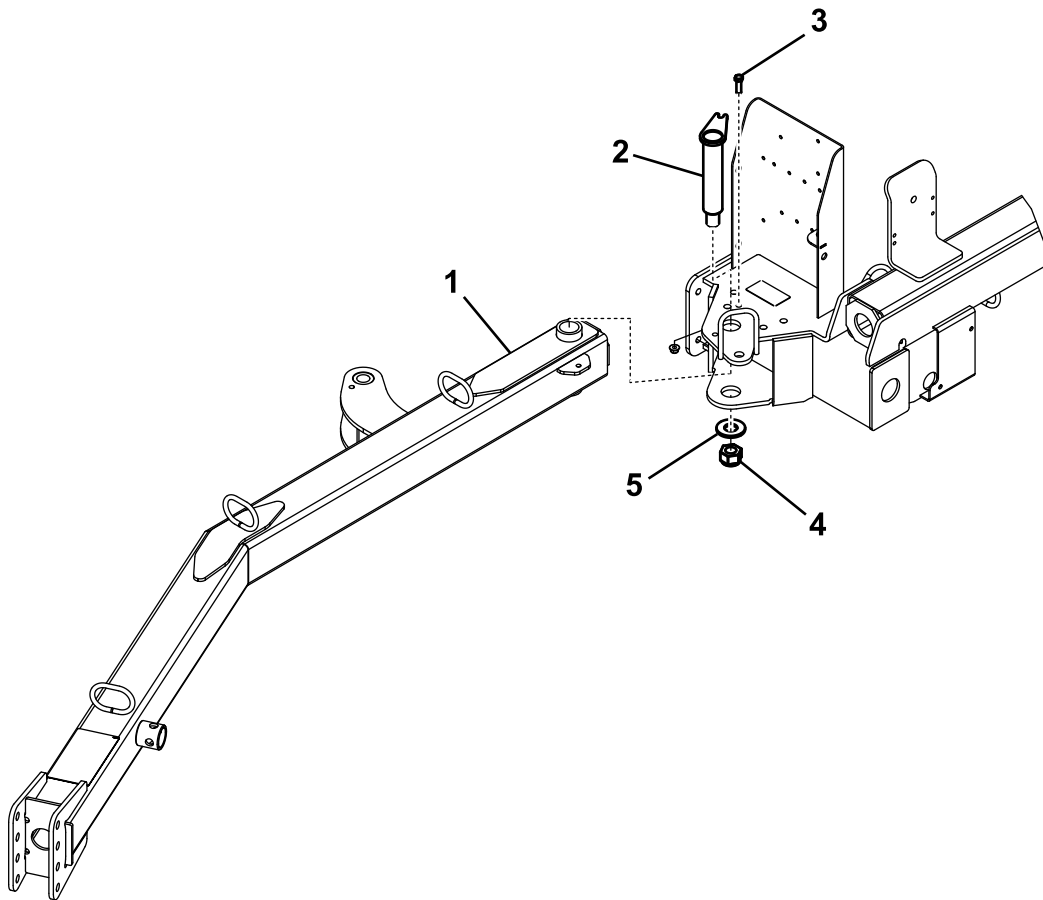

Figure 3
2. Insert the hitch pin through the mounting plates and the hitch tongue (Figure 3).
3. Secure the top of the hitch pin to the mounting plate with a 3/8 x 1-1/4 inch bolt and a 3/8 inch locknut (Figure 3).
4. Secure the bottom of the hitch pin with a large washer, large nut and square head set screw (Figure 3).
1. Insert the rear end of the hitch tongue between the mounting plates on the sweeper while aligning the mounting holes (Figure 3).